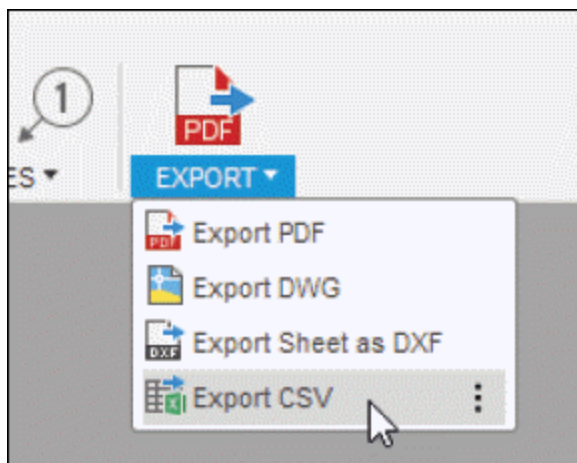

Figure-138. Export CSV tool
- Click on the **Export CSV** tool from **EXPORT** drop-down in the **Toolbar**; refer to Figure-138.